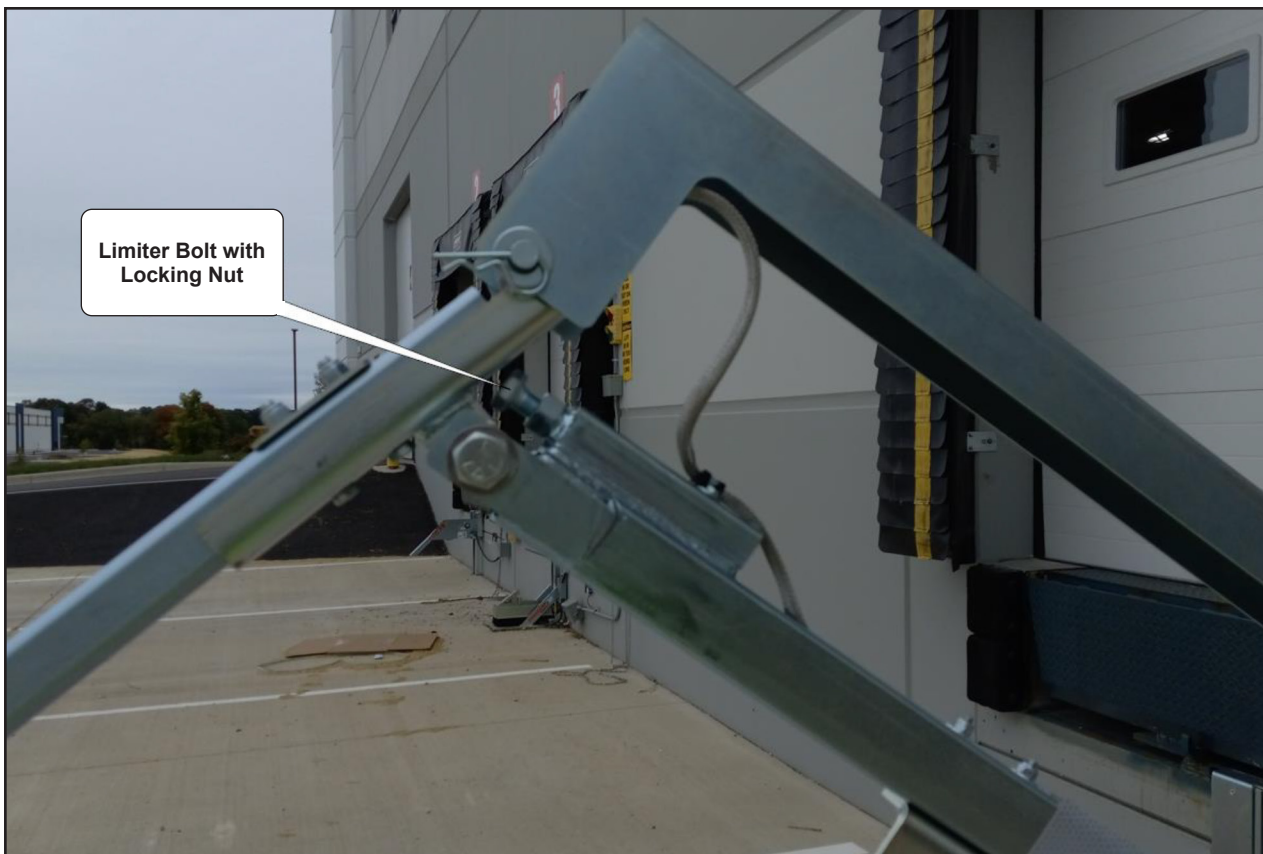

Figure 15
3. Using a ladder, access the extension adjustment mechanism at the junction of the front and rear arms. Screw in the limiter bolt. See **figure 15** on page 19.